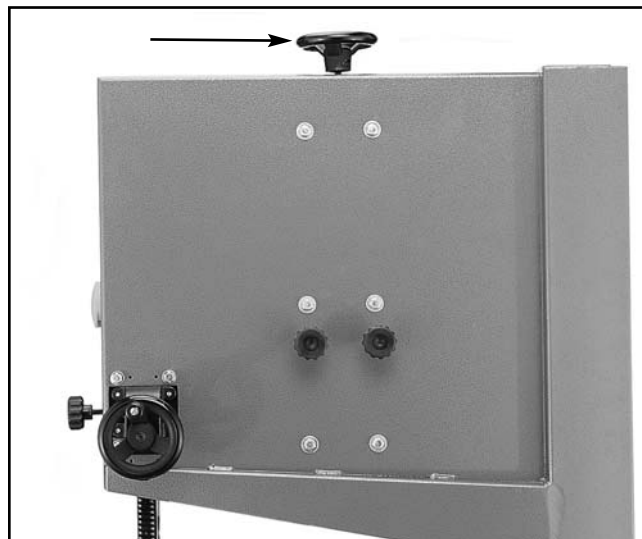

Figure 27. Tension control knob.
1. Loosen tension on the blade by turning the tension control knob counterclockwise when facing the front of the saw. **See Figure 27.**